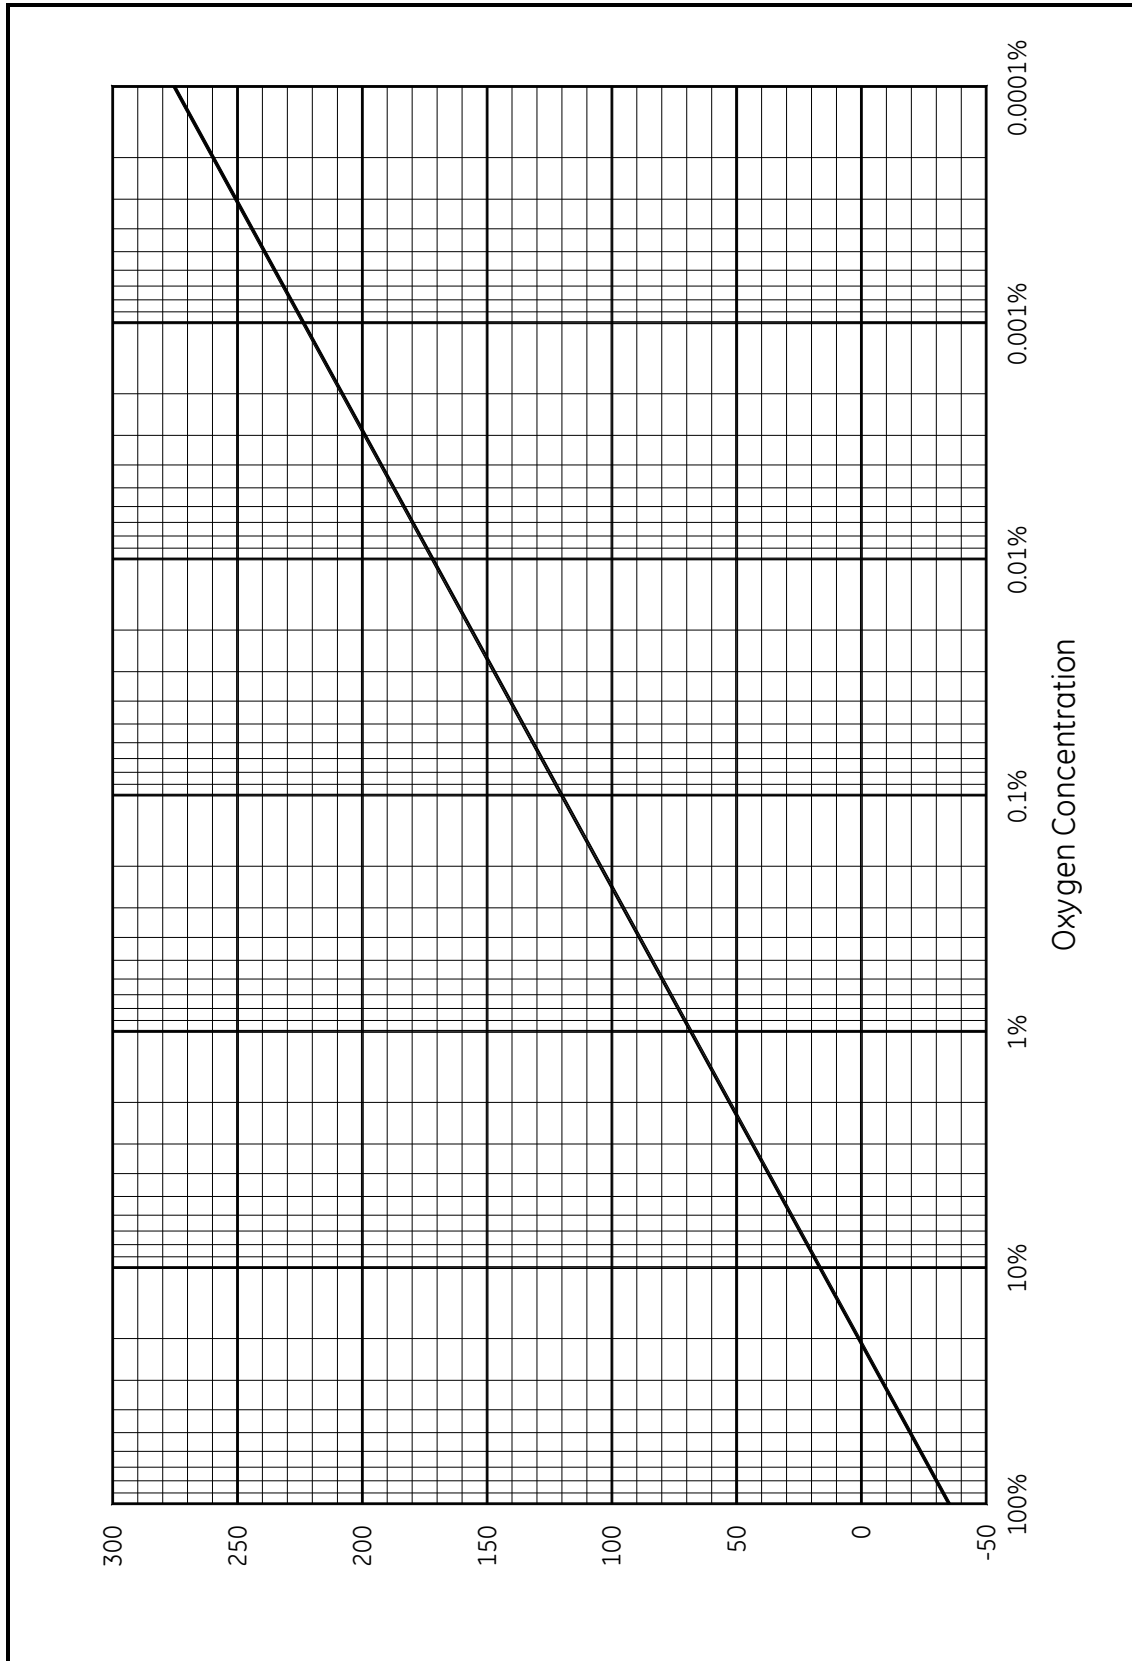
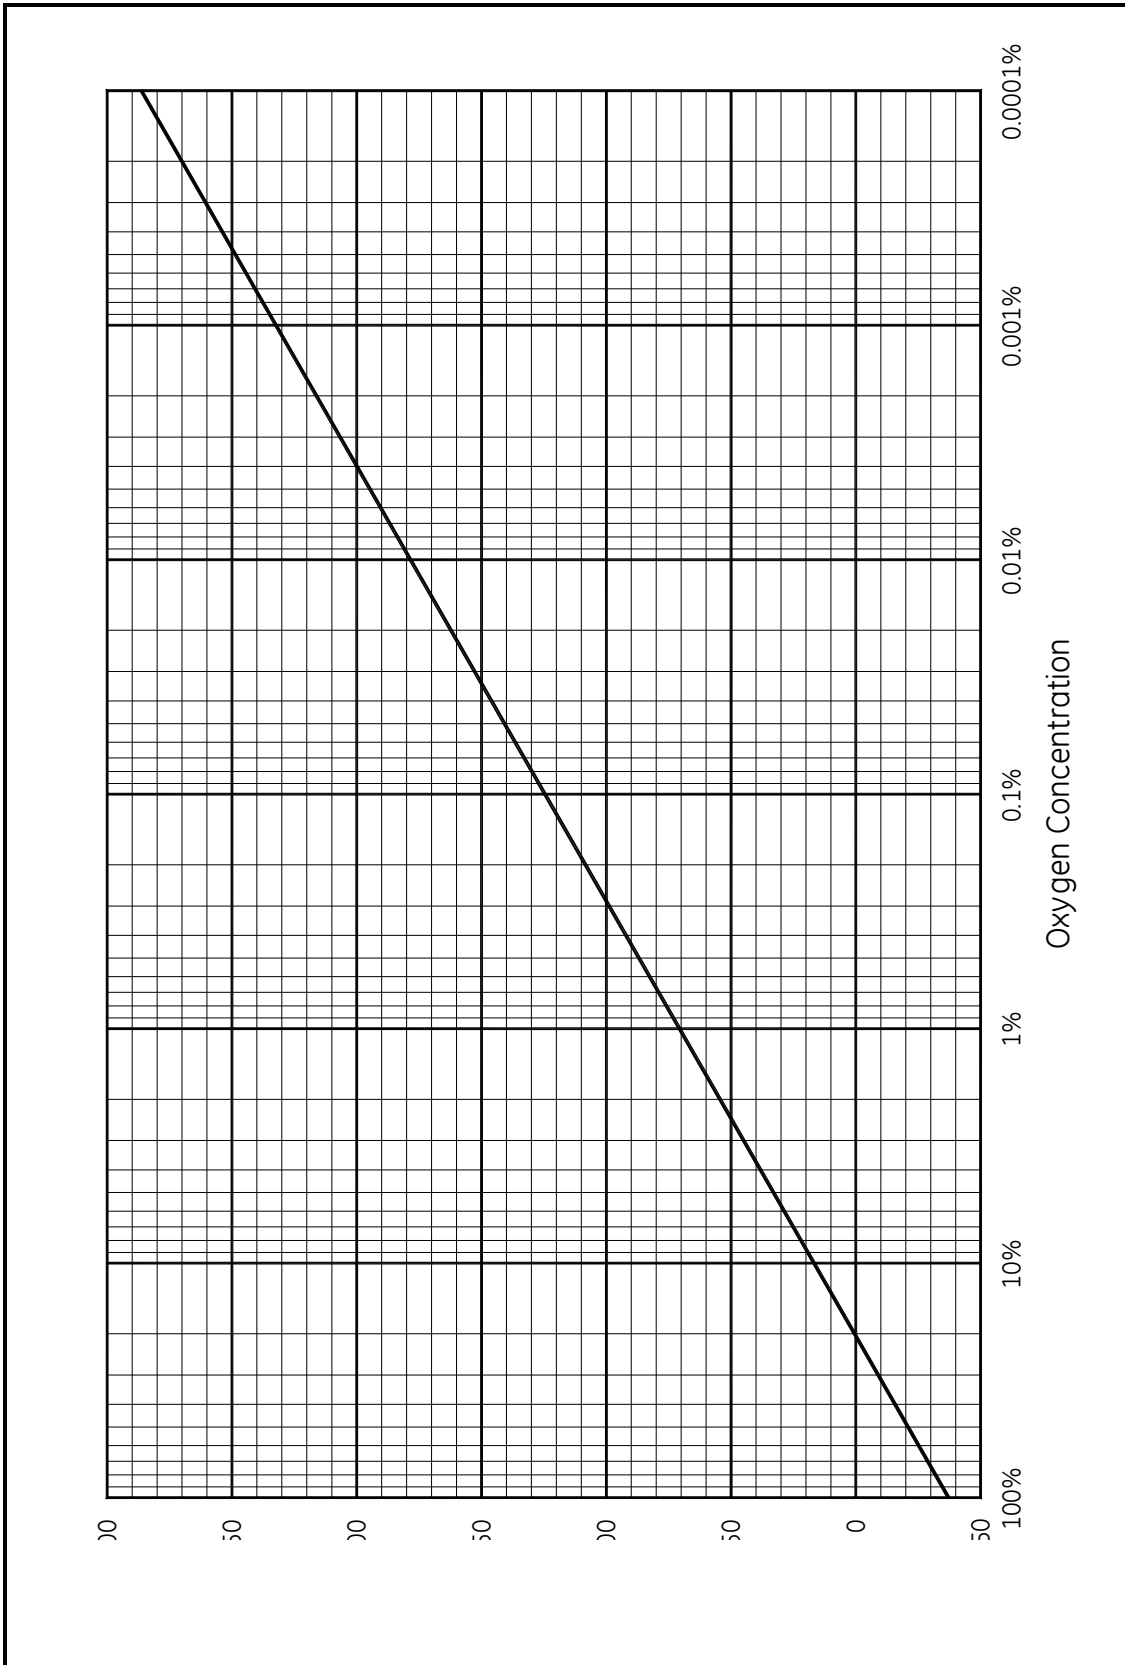

Figure 56: Oxygen Sensor Output at 770°C
Figure 57: Oxygen Sensor Output at 812°C
For convenience, the standard Nernst equations for the FGA 300V(X) Flue Gas Analyzer above have been converted into a graphical format. Use these graphs (see Figure 56 on page 133 and Figure 57 on page 134) to quickly correlate the analog output voltage reading with the corresponding oxygen percentage, at the operating temperature of the unit.